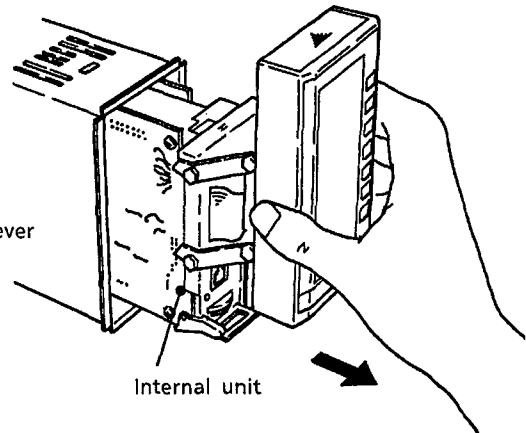

Figure 4.7 Removing the Internal Unit 2
- ③ Hold the left and right sides of the front panel, and pull out the internal unit to the front (see Figure 4.7).